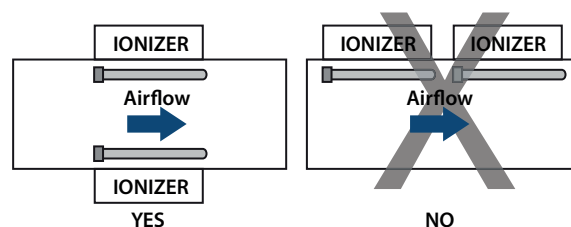

Figure 2
Step 5. If multiple units are required, install them in parallel, not in series. For example, install the units on top and bottom or left and right sides of a duct, not downstream of each other. Avoid the situation where ionized air from one unit passes over a second unit. See Figure 2.